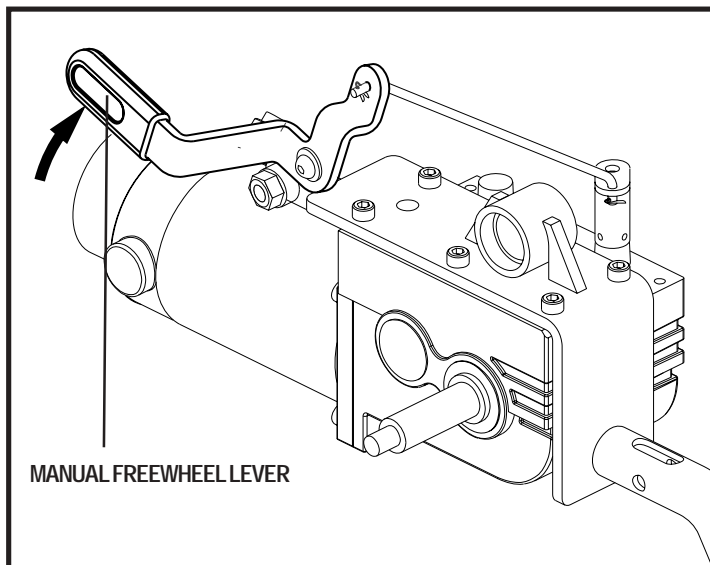

Figure 8. Drive Mode (Drive Engaged)
2. Pull the two levers upward to engage the drive motors (drive mode). See figure 8.